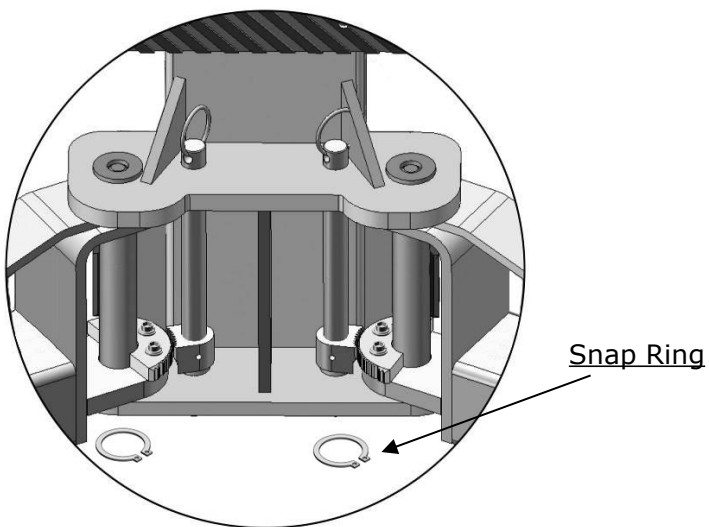

Fig. 23
1. Install the lifting arms (See Fig. 23, 24)